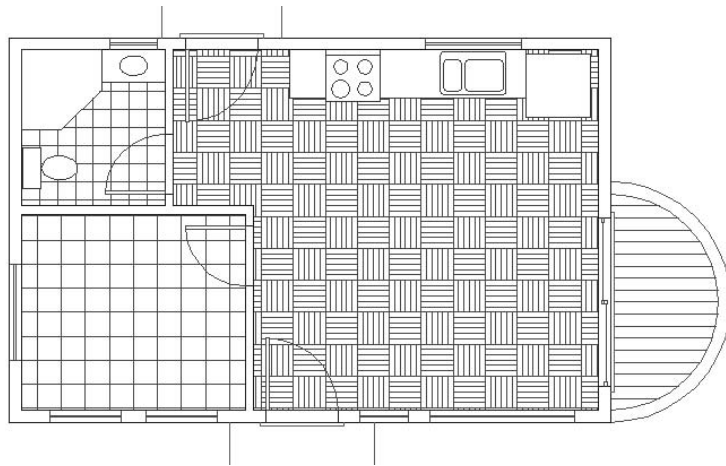

FIGURE 9.20: The user-defined hatch on the balcony floor
12. Right-click, and then choose Preview. Right-click again. The balcony floor is hatched with parallel lines that are 6" apart (see Figure 9.20).